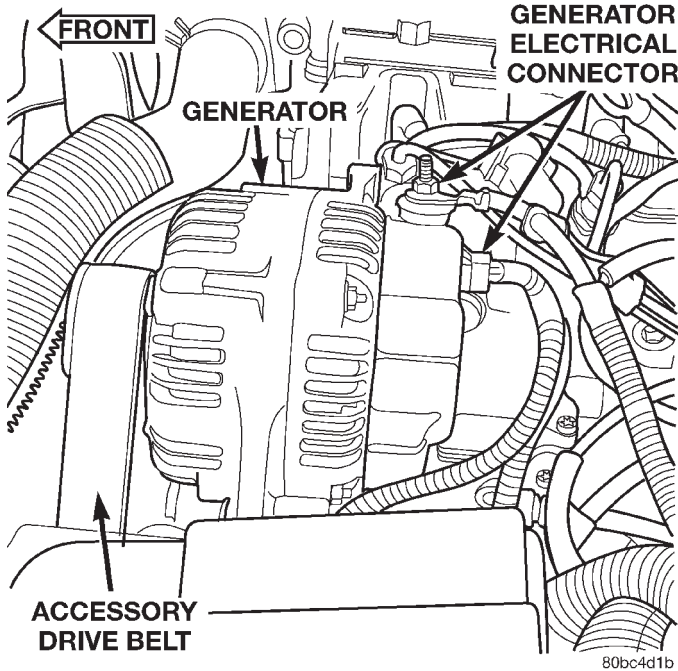

Fig. 2 Generator Electrical
(3) Remove the B+ generator output wire cap and remove the wire from the terminal (Fig. 2).
(4) Disconnect the generator field wire connector from the rear of the generator (Fig. 2).